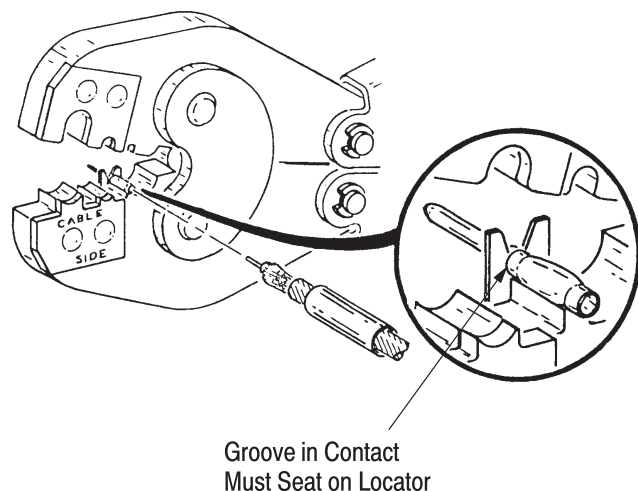

Figure 3
Refer to Figure 3 and proceed as follows:
3. Insert center contact into locator of hand tool as shown in Figure 3, and close tool handles ONLY enough to retain the contact for cable insertion.